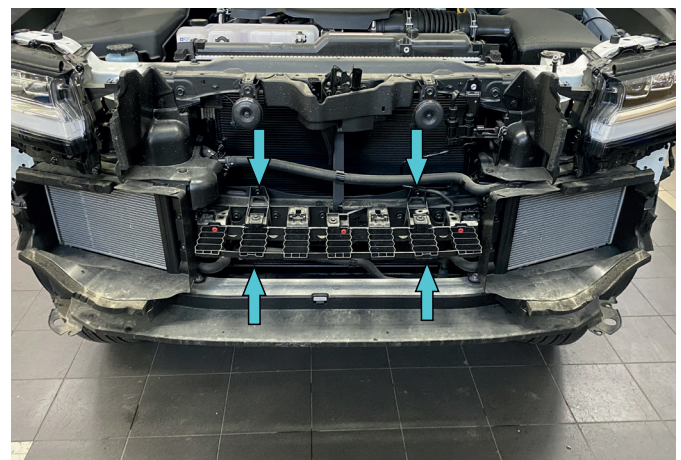

Fig.12
12. Remove OE plastic damper (fig.12).